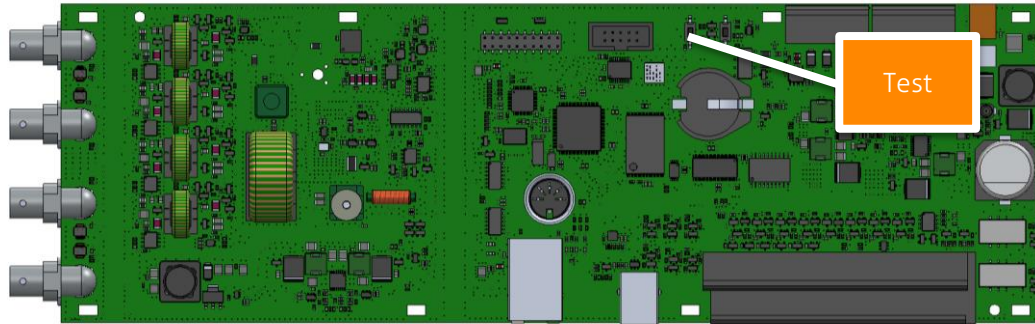
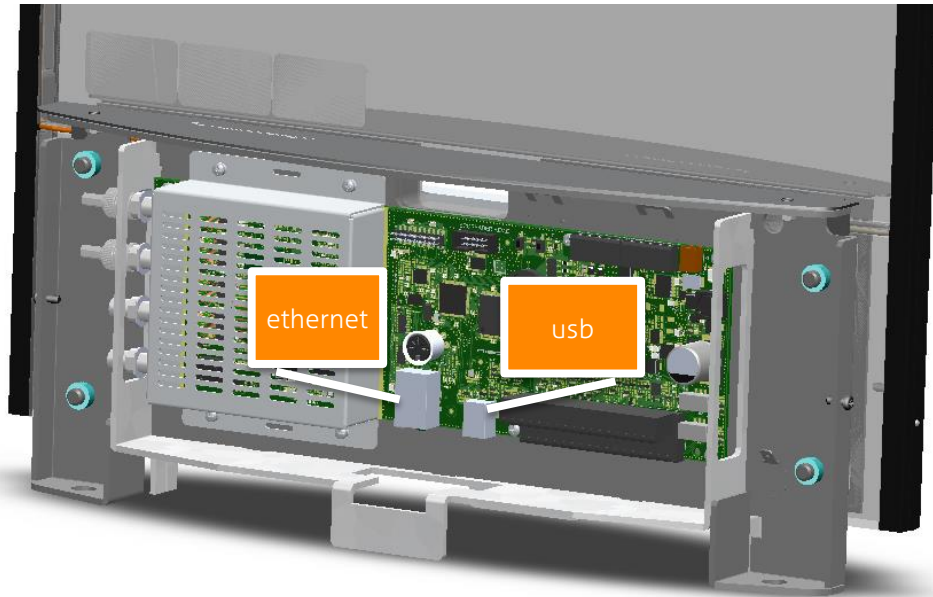

Figure 14 – Test button on Eco Reade inside PG45i
Figure 20 - PG45i EcoReader PCB location
The Pg45i can show if the direction for the gates is configured correctly without having to use special software. Press the test button for approximately 1 second on the Eco Reader (Figure 14). The Eco Reader can be found in the foot (Figure 20). All lights will light up, and stay on. The test mode is now active. Test mode will deactivate after a 1 minute idle time.
5. Connect an Ethernet cable or USB cable (if applicable) to the EcoReader. Refer to Figure 20.